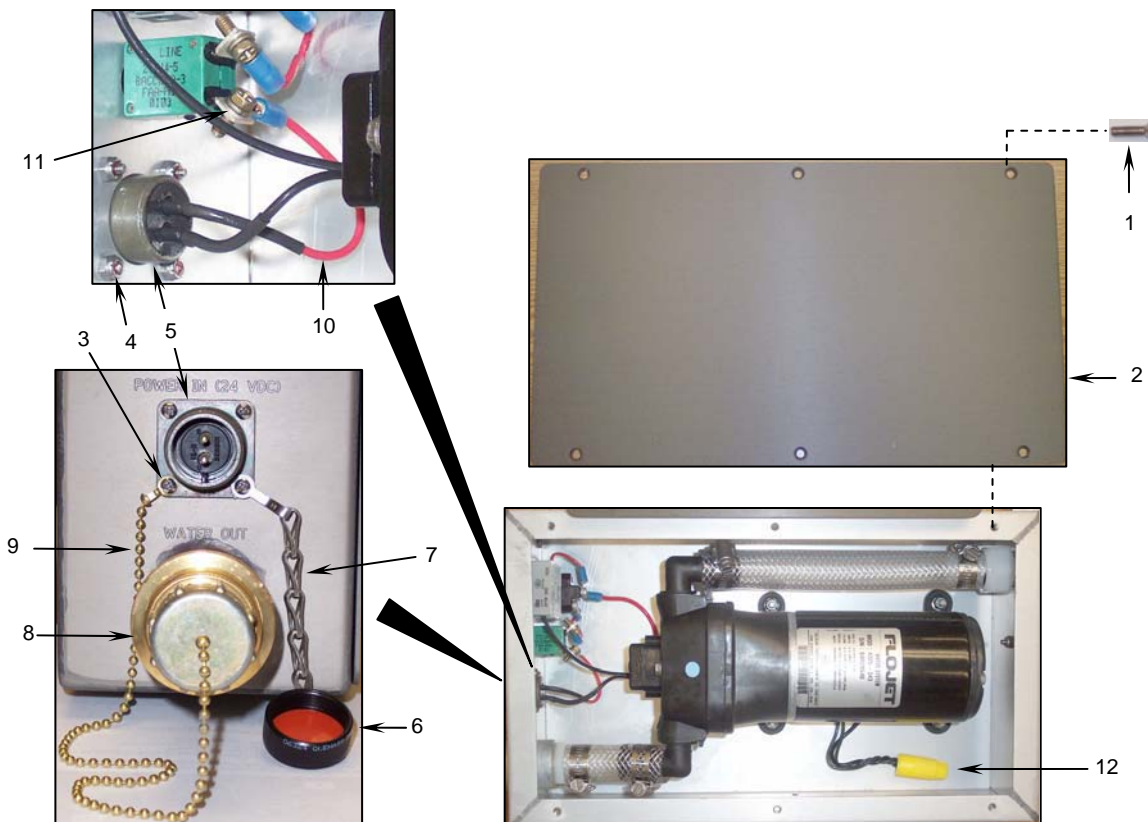

Figure 3. Removing the Sink Fill Pump Assembly Electrical Connector.
- a. Remove the six flat head machine screws (**Figure 3, Item 1**) from the fill pump cover (**Figure 3, Item 2**).
- b. Remove the cover (**Figure 3, Item 2**).
- c. Remove the four screws (**Figure 3, Item 3**) and four self-locking nuts (**Figure 3, Item 4**) that secure the electrical connector (**Figure 3, Item 5**) to the fill pump enclosure.
- d. Remove and retain the connector cap (**Figure 3, Item 6**) and chain (**Figure 3, Item 7**) and the water out cap (**Figure 3, Item 8**) and chain (**Figure 3, Item 9**).
- e. Pull the connector (**Figure 3, Item 5**) out of the fill pump enclosure.
- f. Disconnect the red connector wire (**Figure 3, Item 10**) from the circuit breaker terminal (**Figure 3, Item 11**).
- g. Tag and separate the black wires that are connected with the wirenut (**Figure 3, Item 12**). Discard the wirenut.